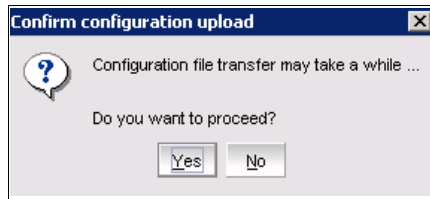

Figure 12-49 Confirmation window
5. When the information is complete, click **Apply**. Confirm the configuration upload by clicking **Yes**, as shown in Figure 12-49.